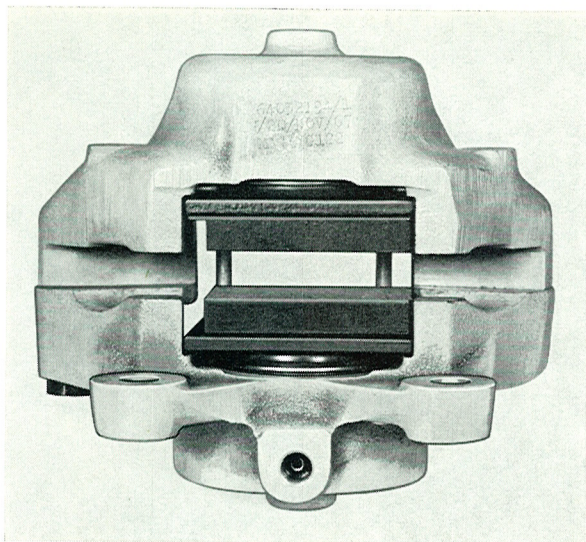

Fig. 5-29. Rear brake caliper assembled
5. Fit the brake pads, with the relieved edge away from the venting nipple, i.e. towards the leading edge of the caliper in relation to the forward direction of disc rotation, see Fig. 5-29. Refit one of the retaining pins, the damping springs and the other retaining pin. Secure the pins with the hair-pin-shaped retaining clips. Check that the pads are movable.